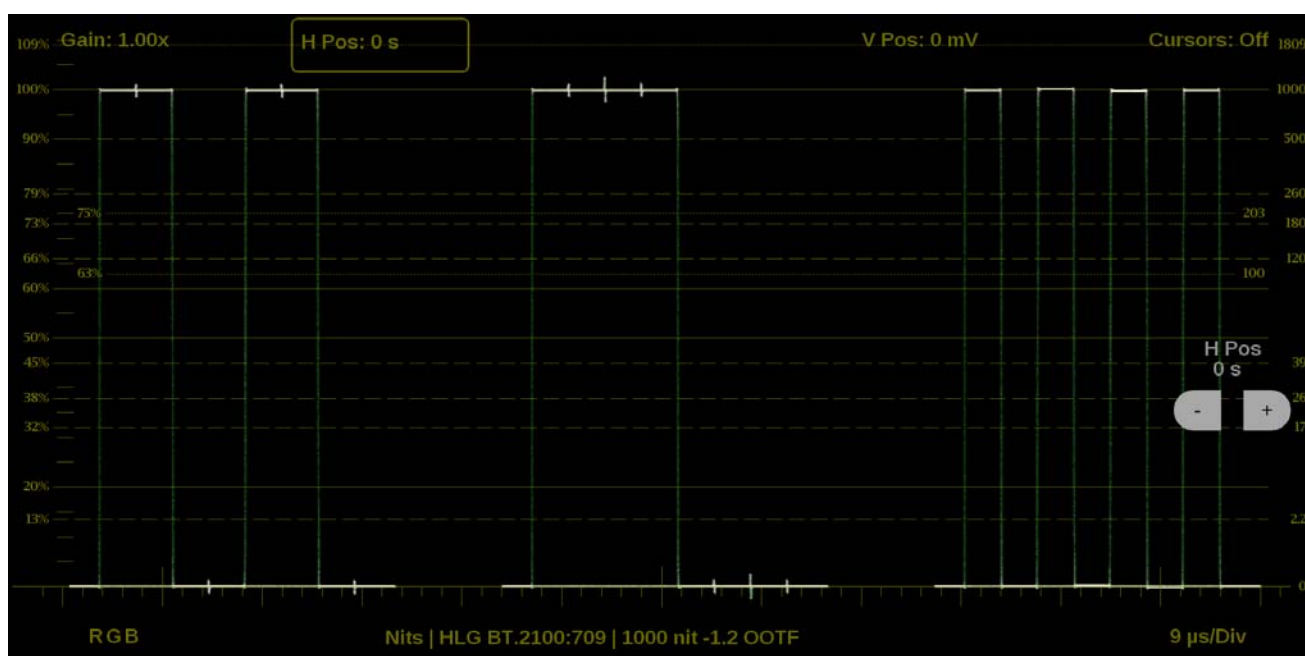

Figure 74: Waveform on-screen tools – horizontal position
1. Touch the **H Pos** button to allow incremental adjustment of the horizontal trace. (See Figure 74.)